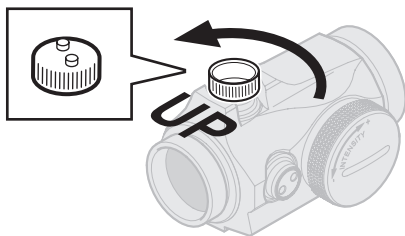

Fig. 5 ➔ 2.3
- To move the point of impact to the left, turn windage adjustment screw (5) clockwise.
**f** Elevation adjustments (See Fig. 5)
- To move the point of impact up, turn elevation adjustment screw (4) counter clockwise.
- To move the point of impact down, turn elevation adjustment screw (4) clockwise.
**NOTE:** Each click of the adjustment screws (4) (5) corresponds to a 13 mm movement of the point of impact at 100 meters, (3 mm at 25 meters and 26 mm at 200 meters or 0.5 in at 100 yds).